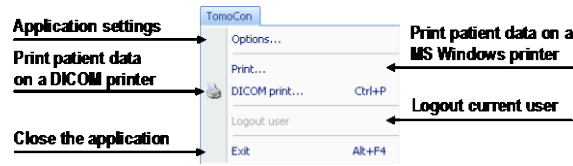

Figure 33 – TomoCon menu
- **TomoCon** – the main application submenu for defining the application settings and printing (image data printing on a Microsoft Windows printer, DICOM printer, logging into and out of the application or closing it); see Figure 33.